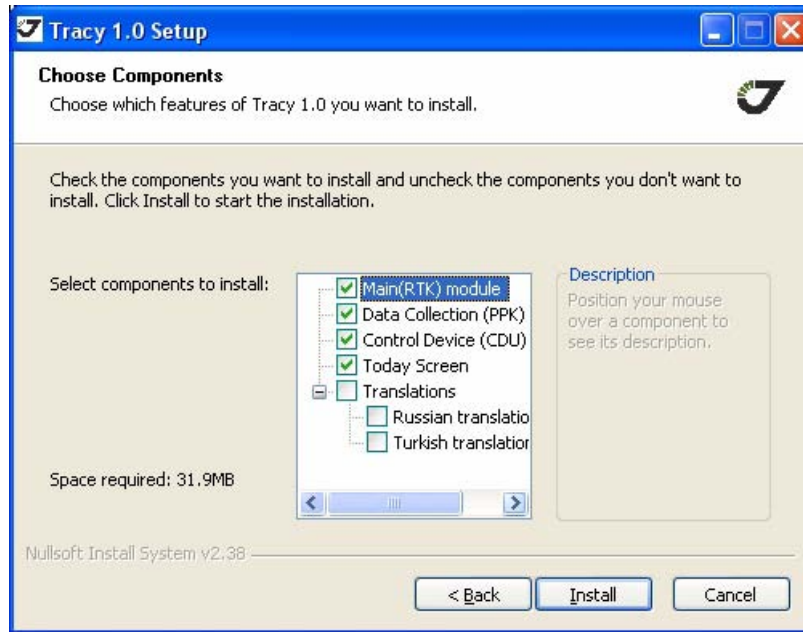

Figure 1-2. Choose device
10. Choose components you want to install and click *Install* (Figure 1-2):